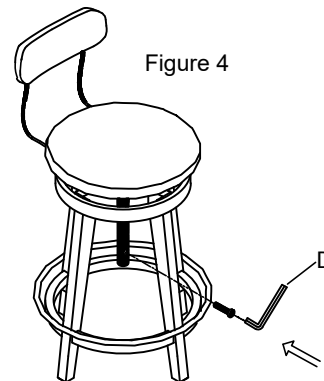

Figure 4
5. Assemble Bolt (A) to the turn metal stick of the top, tighten with Allen wrench (D). as shown in Figure 4.